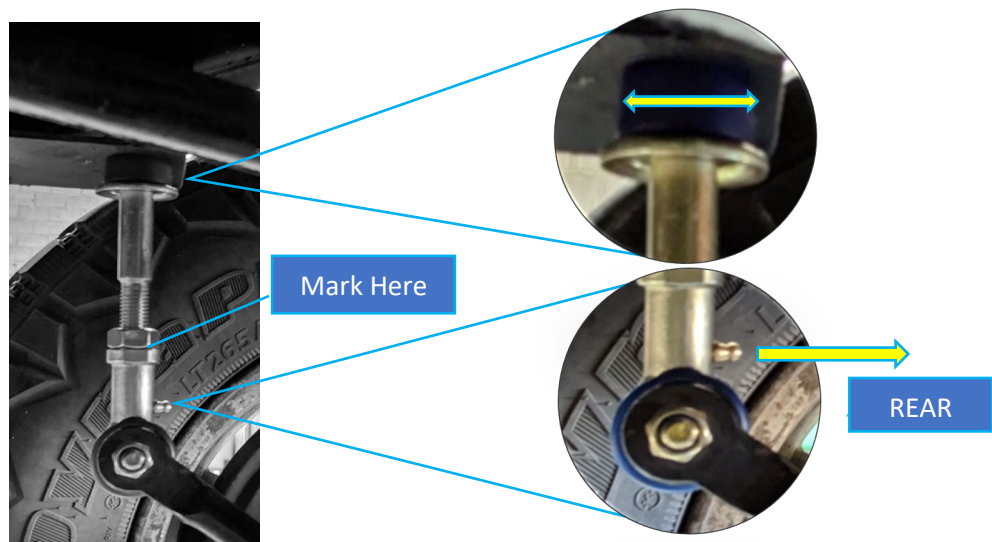

Figure 2. Installed Rear Driver's Side Link Pin
- Once the bushings show signs they are bulging, align the Rod End eye to the sway bar mounting eye and wind the lock nut to meet the Rod End and mark the thread with a marker (See Figure 2)
(Note: Ensure that the grease nipple is facing towards the rear of the vehicle for protection. (See Figure 2)